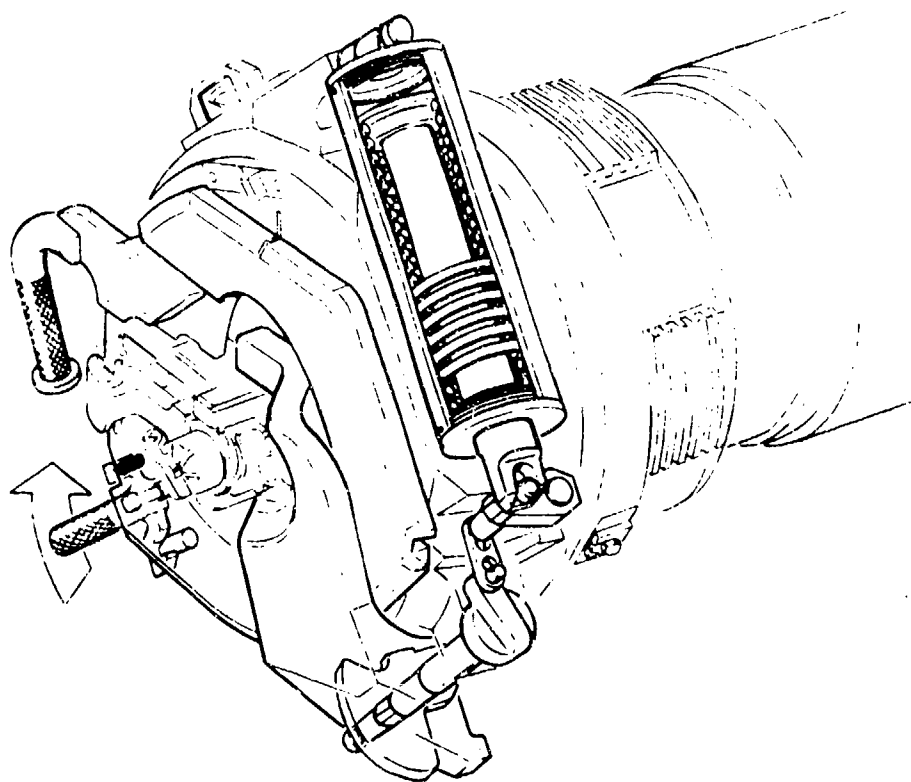

Figure 6-12. Counterbalance assembly.
a. *Construction.* The counterbalance assembly (fig 6-12) is a cylinder with closed ends. The cylinder contains a relatively strong compression spring and is mounted on the breech ring. The spring is compressed between the head of the cylinder and the counterbalance piston. The counterbalance is connected to the breechblock carrier hinge pin by means of the counterbalance piston rod.